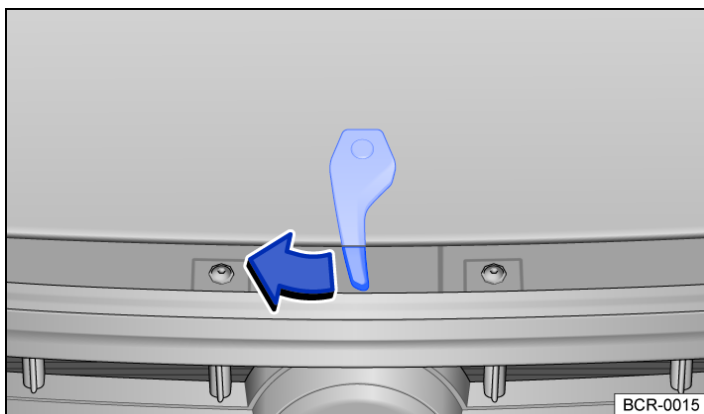
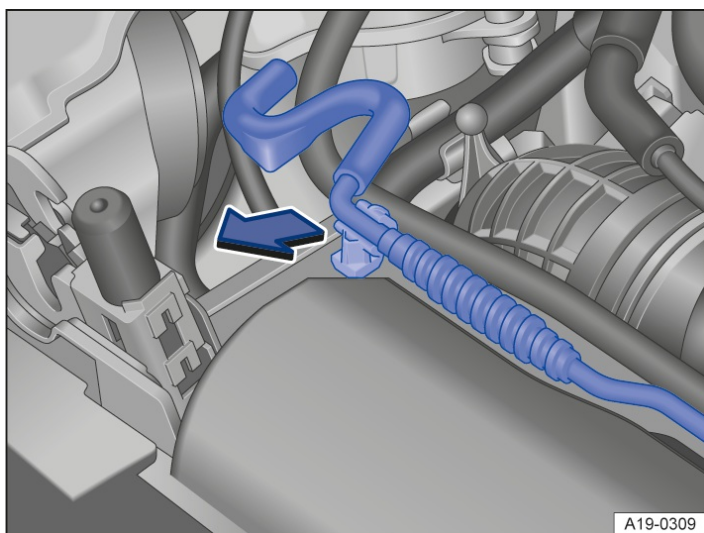
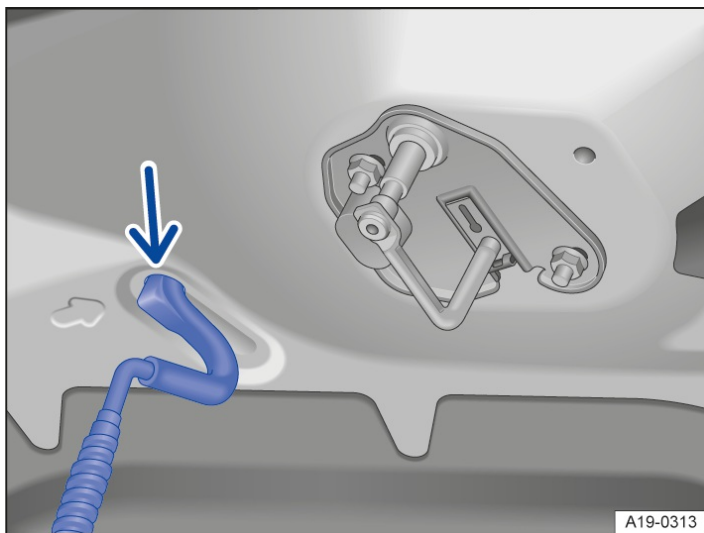

Fig. 2 Above the radiator grille: bonnet control lever.
Fig. 3 In the engine compartment: bonnet stay in the holder.
Fig. 4 On the bonnet: holder for bonnet stay.
- Raise the bonnet slightly and at the same time press the control lever in the direction of arrow → *Fig. 2* to fully open the bonnet.
- Take the bonnet stay in the direction of arrow out of its holder → *Fig. 3* and push it into the opening → *Fig. 4*.
- Unhook the bonnet stay from the opening → *Fig. 3* and push it into its holder → *Fig. 2*.